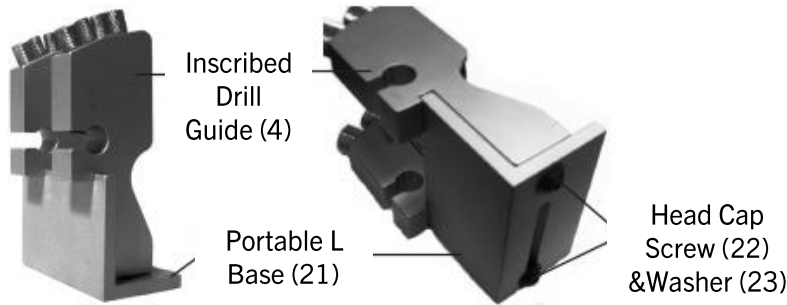

Fig.7
1. The Portable L Base (25) allows the Drill Guides (4&5) to be utilized without the entire Pocket Hole Jig being moved. Loosen the Knob (8) and remove both Drill Guides (4&5) from the Drill Guide Rod. (3)
2. Attach the Drill Guides (4, 5) to the Portable L Base (25), using the Socket Head Cap Screws (26) and Washers (27). Using the 3mm Hex Wrench (21), attach the Inscribed Drill Guide (4) to the fixed mounting hole on the right side of the Portable L Base. Attach the other Drill Guide (5) to the floating connection on the left side of the Portable L Base. (See Fig.7)